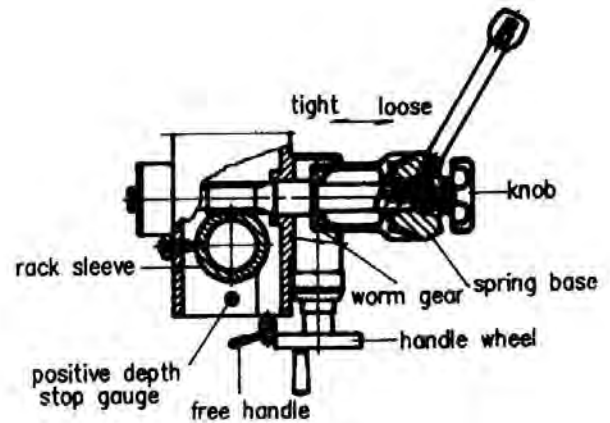

Fig 2
(4) Preparing for Drilling (see fig. 2) (Except addition power feed system).
(5) Preparing for Milling (see fig. 2) (Except addition power feed system).